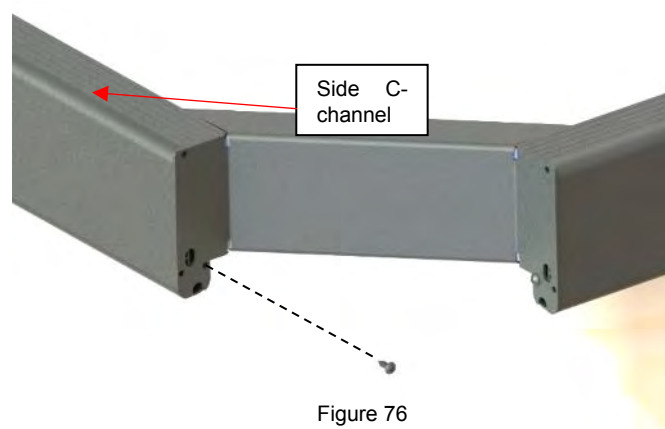

Figure 76
34) Snap on the remaining side C-channels, 83 in. (210 cm) at one end of the cover. It is recommended to slightly engage the top flange before the bottom when sliding the C-channel onto the foam panel (Figure 76).
35) Screw in the Robertson sheet metal #8 x 3/4 in. screw in the inner hole of the corner bracket (Figure 76).